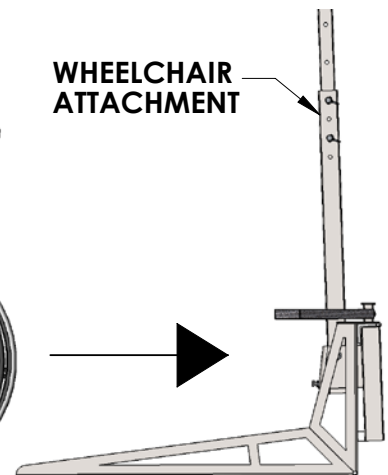

FIGURE 2
2. Roll the wheelchair back over the attachment forks until the rear wheels bump up against the back of the forks. See FIGURE 2.